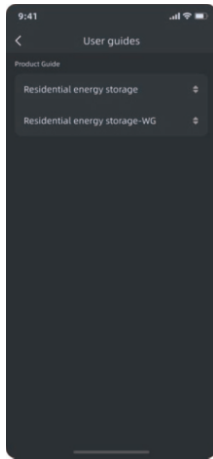

Figure 1
- 1 )Figure 1: Display a list of all supported product models.